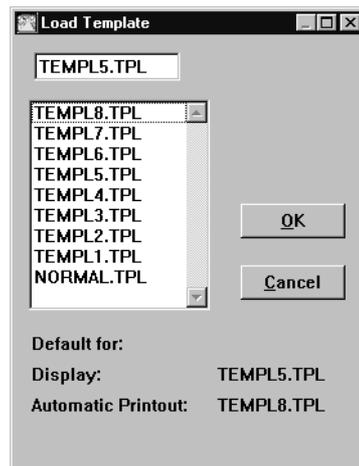

Fig. 8 The load template dialogue box
- 1 **Select File/Load Template. The load template dialogue box is presented on the screen, see Fig. 8.**
1 Select Edit/Template. The template dialogue box appears, see Fig. 8.